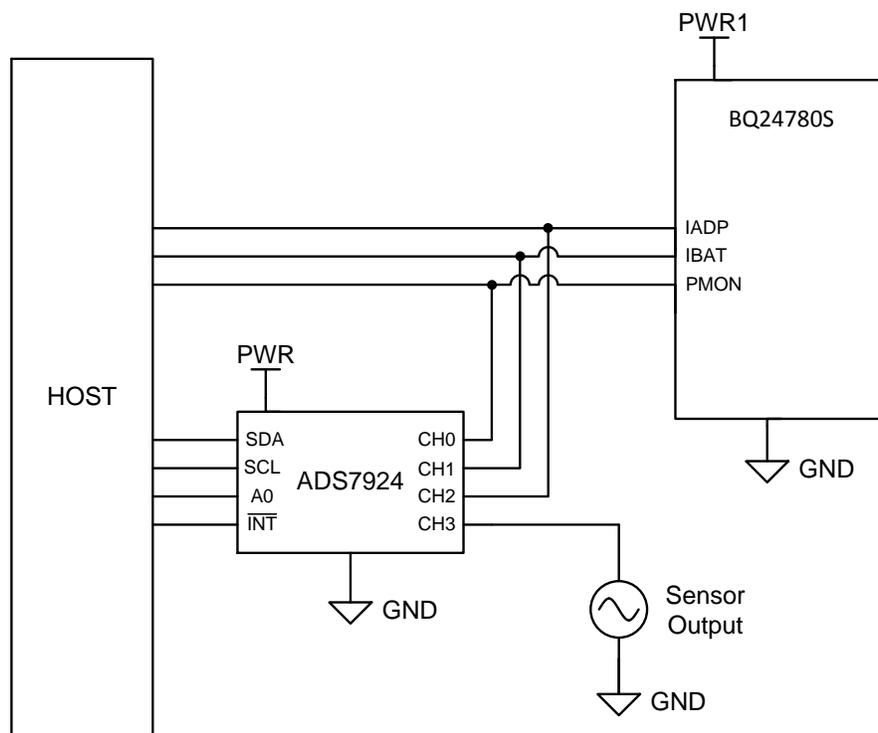

Figure 9. Block Diagram: Autonomous Monitoring Application using ADS7924
- The second application circuit applies the previous implementation of the bq24780S and adds an ADS7924, as shown in Figure 9 below. The ADS7924 is a 12-bit, four-channel, low-power, successive approximation register (SAR) analog-to-digital converter (ADC) with a small footprint. The ADC has a digital comparator with programmable upper and lower limits for each of the four channels. Adding the ADC to the system allows the host to monitor the total power from the adapter and battery (PMON), as well as the discharge current (IDCHG) and the adapter current (IADP) of the battery. The ADC provides the host with an alarm on a dedicated interrupt output pin when any of the thresholds are crossed, allowing the host to take preventive measures.